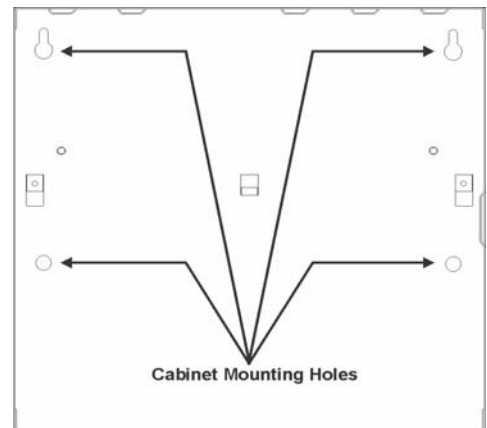

Figure 2 Cabinet Mounting Holes
5. To mount the cabinet, insert and secure the appropriate screws and anchors in the mounting holes as shown in Figure 2.